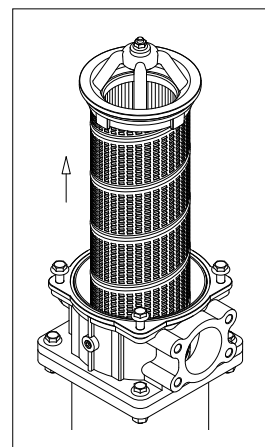

fig. 6
- (Fig. 6) Pull the internal filter out after placing a vessel to collect the operating fluid